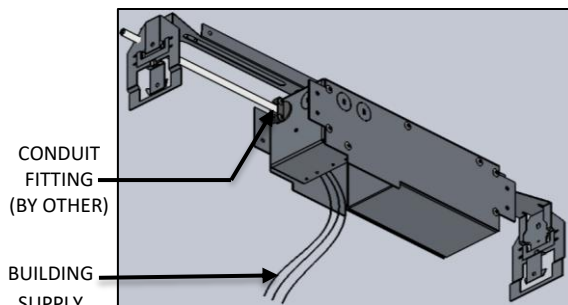

FIG. 23- CONDUIT FITTING TO J-BOX ASSEMBLY
14. Remove the desired knock out and attach appropriate 1/2" CONDUIT FITTING and pull the BUILDING SUPPLY wires through the opening as shown below in FIG. 23.